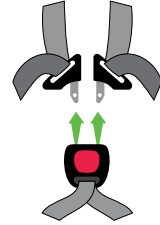

Figure 18
Step 2. Release harness by pressing the red button on the buckle (Figure 18).